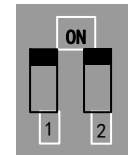

Fig 4-4
- (2) Press the “Fun” key, to enter the programming menu.
- (3) Study the parameters of the motor: the operation process is the same as that of example 1.
- (4) Set functional parameters of the inverter:
- ① Enter F106 parameter and set it to 0. Select the control mode of sensorless vector control;
- ② Enter F203 parameter, and set it to 1; select the mode of frequency setting of analog AI1, 0~10V voltage terminal;
- ③ Enter F208 parameter, and set it to 1; select direction terminal (set OP6 to free stop, set OP3 to forward running, set OP4 to reverse running) to control running;
(5) There is a red two-digit coding switch SW1 near the control terminal block of 15 Kw inverter and below 15Kw, as shown in Figure 4-4. The function of coding switch is to select the voltage signal (0~5V/0~10V) or current signal of analog input terminal AI2, current channel is default. In actual application, select the analog input channel through F203. Turn switches 1 to ON and 2 to ON as illustrated in the figure, and select 0~20mA current speed control. Another switches states and mode of control speed are as table 4-2.